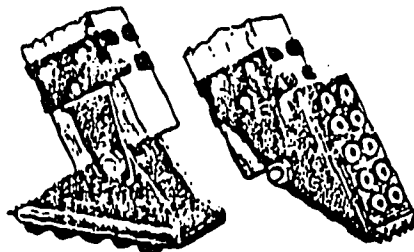

Figure 11. Ladder Safety Shoes
- c. Equip the rails with safety shoes, as shown in Figure 11. This is especially necessary when you use the ladder on surfaces that could permit the ladder to slip.